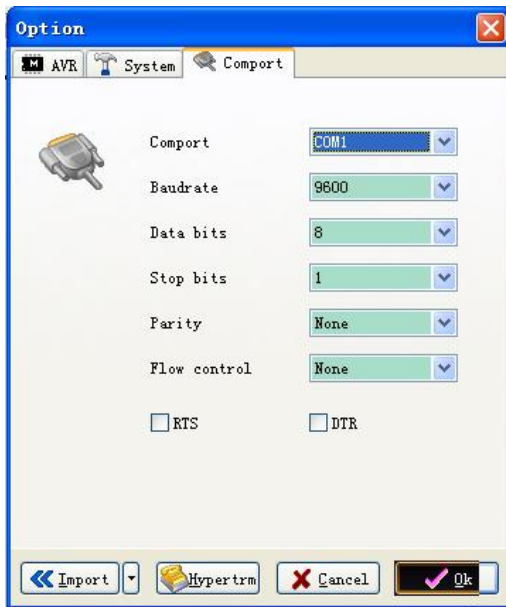

Fig. 5
- 5) Change settings on tab “Com Port” as per Fig. 5. Com port number should be chosen to match actual port used. **This is important.** Communication format must be set to **9600 bps, 8N1 with no parity and flow control.**